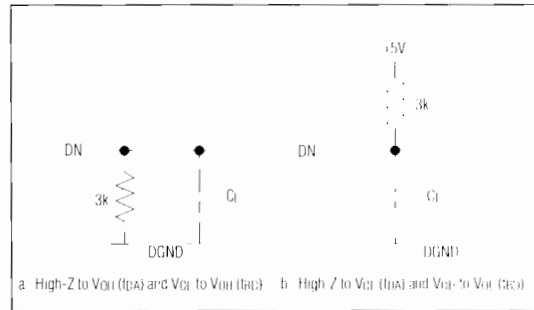

Figure 1. Load Circuits for Access Time
**Note 7:** Control inputs specified with tr = tf = 5ns (10% to 90% of +5V) and timed from a 1.6V voltage level. Output delays are measured to +0.8V if going low, or +2.4V if going high. For bus-relinquish time, a change of 0.5V is measured. See Figures 1 and 2 for load circuits.